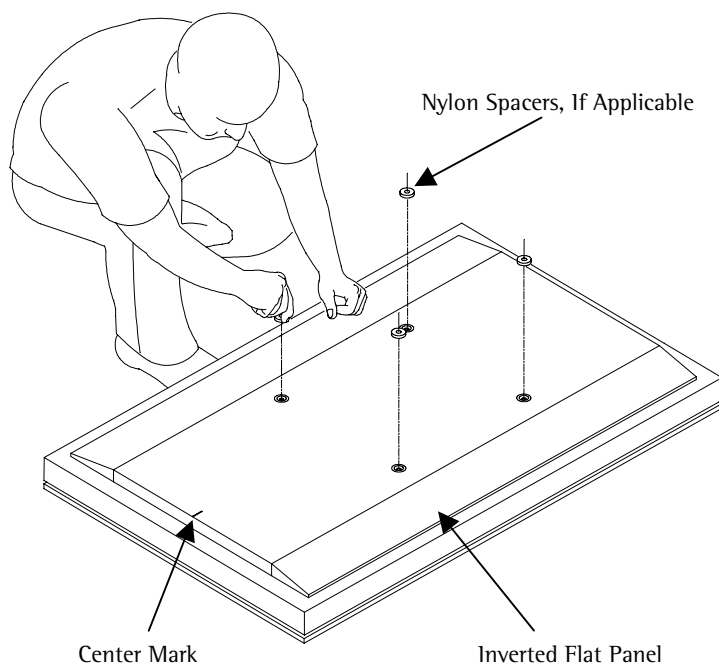

Figure 6
3. Install the nylon spacers (if needed) to the mounting points on the flat panel (Figure 6).